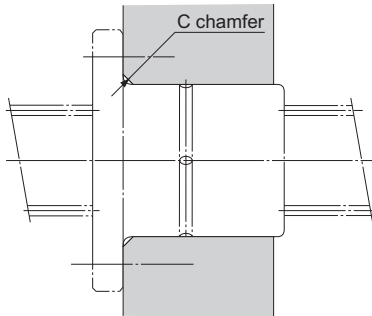

Fig.1
From the diagram of pV values (see Fig. 1 on A-517), it is judged that there will be no abnormal wear if the sliding speed (V) is 13.5 m/min or below against the "p" value of 1.73 N/mm². Therefore, it is appropriate to select model DPM3560.